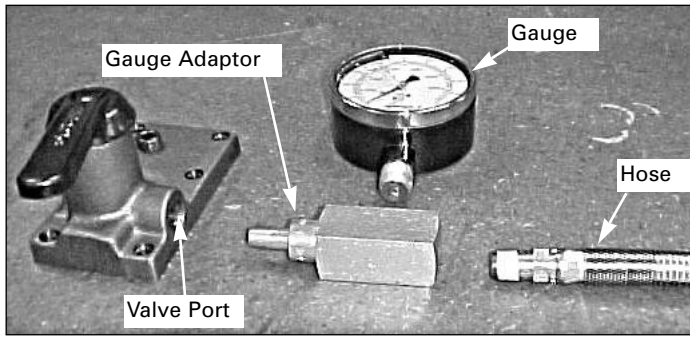

Figure 3
1. Screw the gauge adapter into the valve port (3/8" NPT). (See Figure 3.)